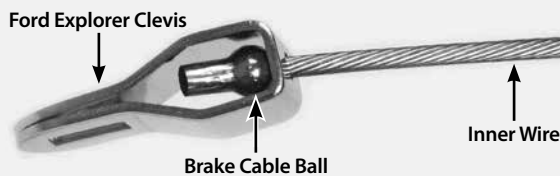

Fig. 7
**Step 7:** Install the Ford Explorer clevises onto the inner wires by sliding the end of the inner wire without the ball end on it through the 1/8" hole from inside the U-shaped part of the clevis. Pull the inner wire through the clevis until the brake cable ball on the end of the inner wire stops inside the clevis. **Fig. 7**